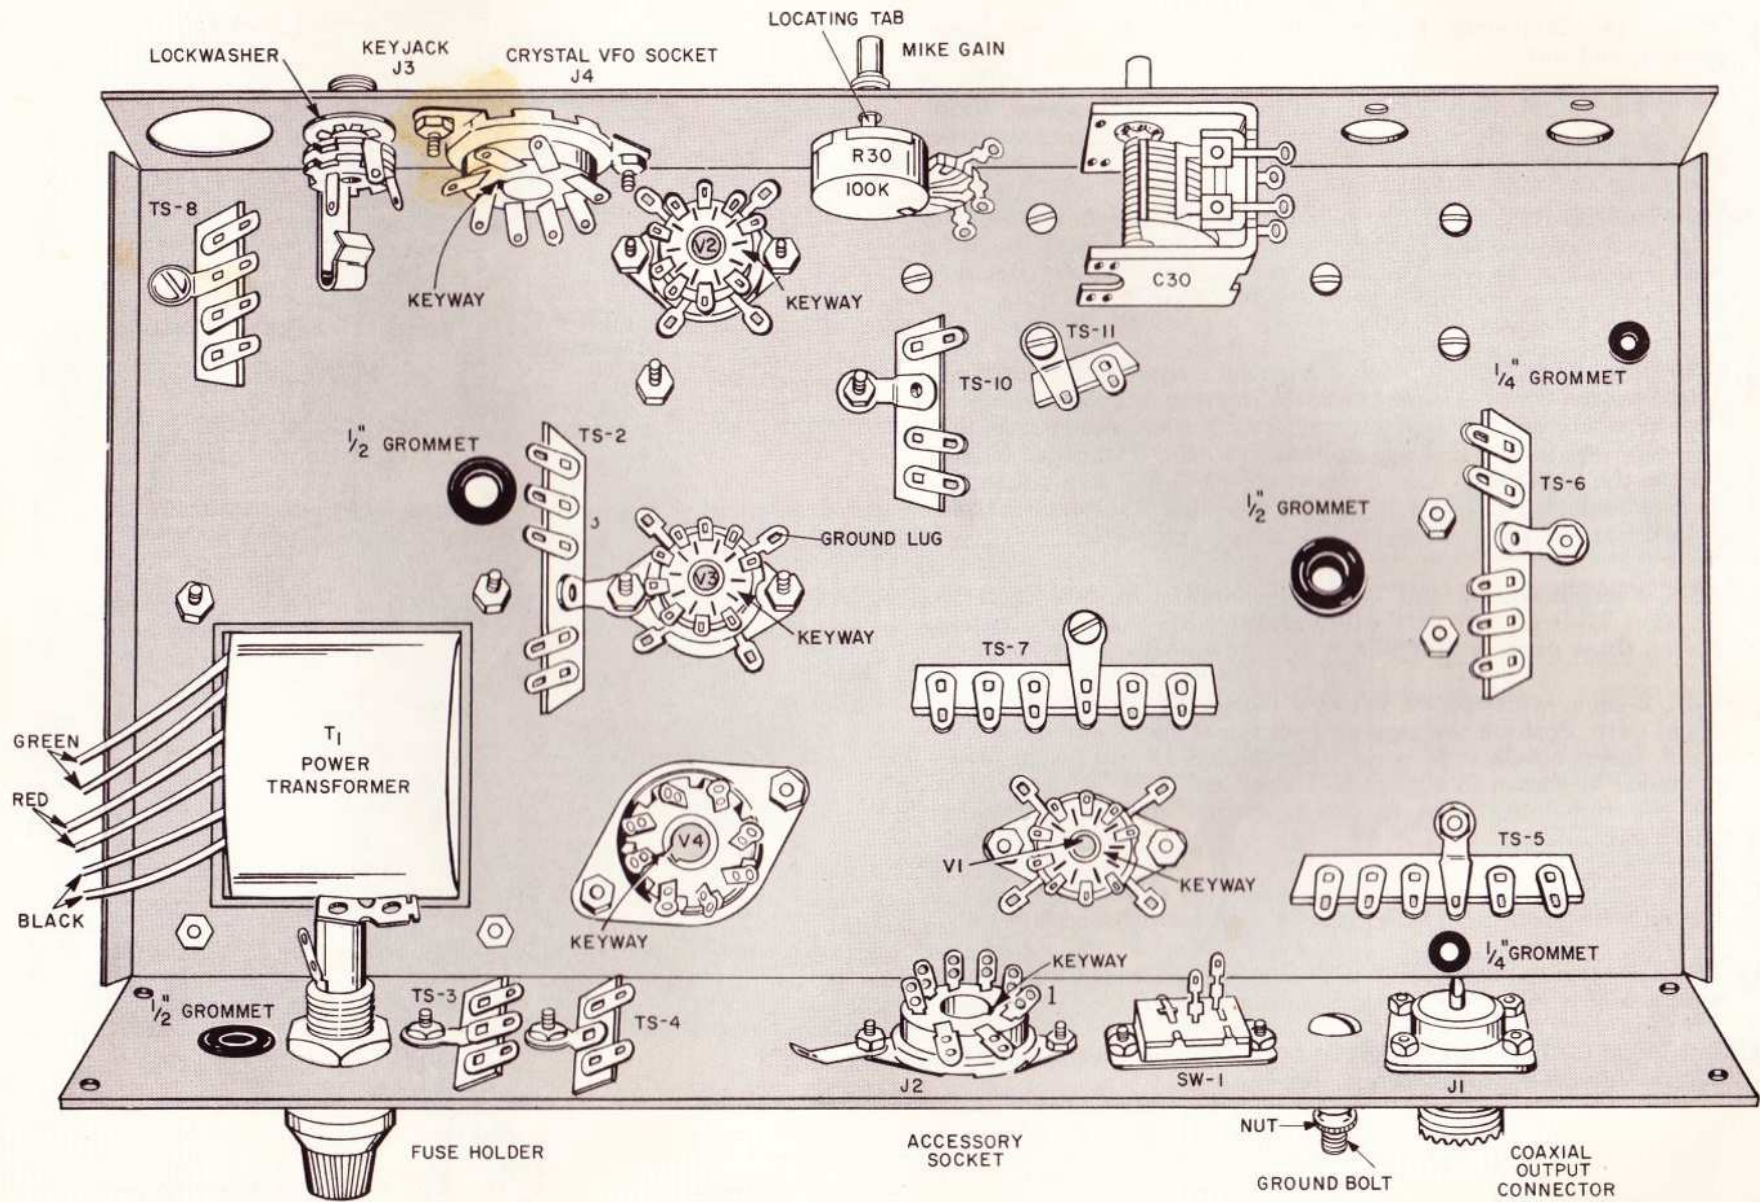
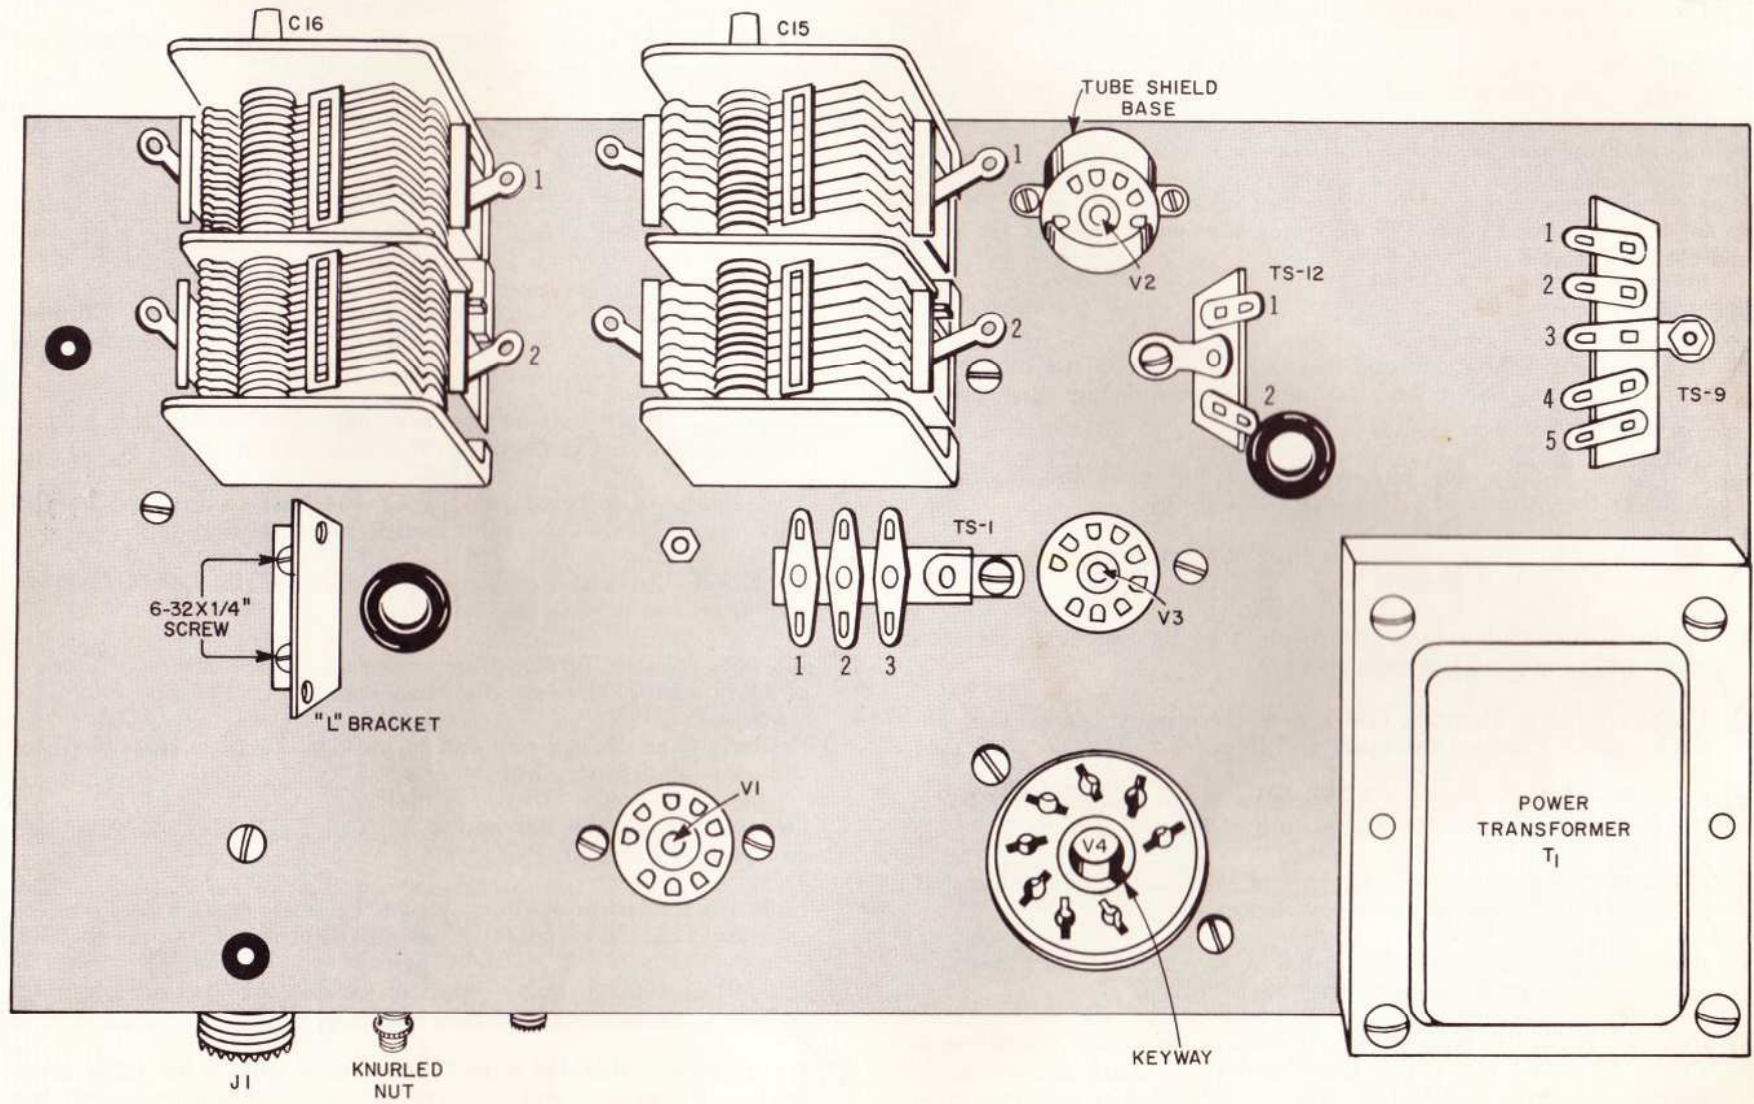

FIGURE 2
FIGURE 6
SEE FIGURES 2 AND 6
NOTE: It is sometimes helpful to write the part symbol on the chassis with a soft pencil or crayon. Make sure the tube sockets and terminal strips are positioned exactly as shown in Figure 2.
- ☑ J2, 8-pin accessory socket, and solder lug. Position the socket with the keyway as shown in Figure 2. Place the solder lug between the socket and lockwasher at the point shown and fasten with two 6-32 x 1/4" screws, lockwashers, and nuts.
- ☑ SW-1 slide switch. Mount so terminals are positioned as shown in Figure 2. Fasten with two 6-32 x 1/4" screws, lockwashers, and nuts.
- ✓ C-15, 2-gang, wide-spaced variable capacitor; and TS-11, 2-terminal strip. Position the capacitor on top of the chassis. See Figure 6. Insert a 6-32 × ¼" screw through TS-11 and fasten to the capacitor as shown in Figure 2. Thread a 6-32 × ¼" screw into the two remaining holes in the capacitor. Place a lockwasher under each screw.
- ✓ C-16, 2-gang variable capacitor. Position as shown in Figure 6. Fasten with three 6-32 × ¼" screws, and lockwashers.